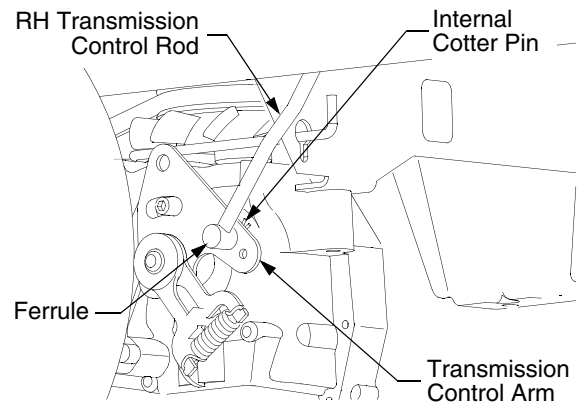

Figure 24
- If only one wheel is rotating, locate the transmission control rod beneath the frame at the front of the rear tire. If both wheels rotate, locate both control rods. See Figure 24.